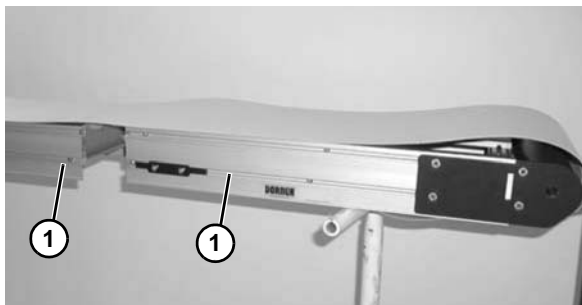

Figure 7
- Roll out conveyor belt and place conveyor frame sections (**Figure 7, item 1**) into belt loop.